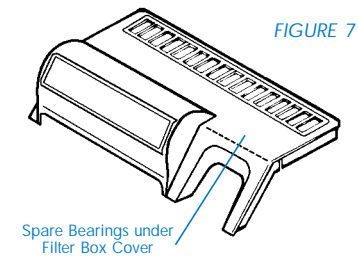

FIGURE 7
*NOTE: Bearings can fall off axle. Before cleaning, remove bearings and put them aside. For your convenience, we have included two spare Bearings located on the underside of the **Filter Box Cover** (Fig. 7)*